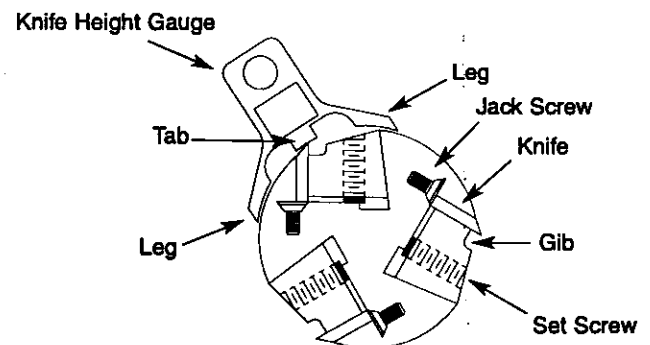

Figure 6 - Knife Height Gauge
Refer to Figures 6 and 15, pages 7 and 16.
- Place the knife height gauge on one end of the knife and adjust the jack screw until the knife just contacts the tab in the middle of the gauge (see Figure 6).